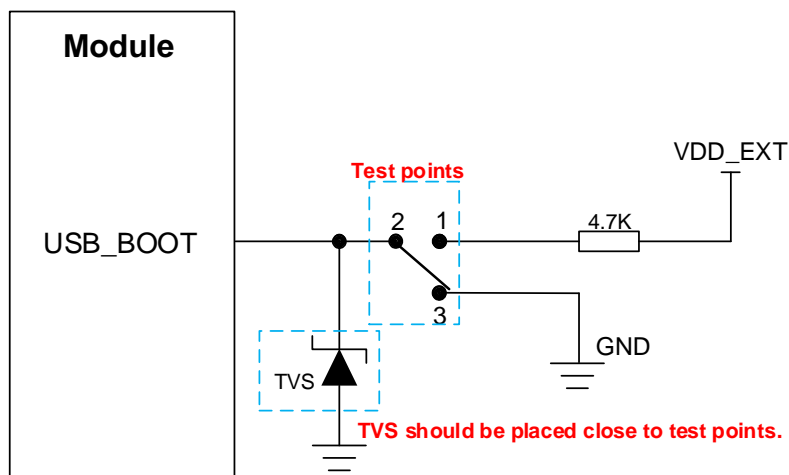

Figure 21: Reference Design of USB_BOOT
3. If you need to manually force the module to enter download mode, directly connect the test points shown in **Figure 21**.